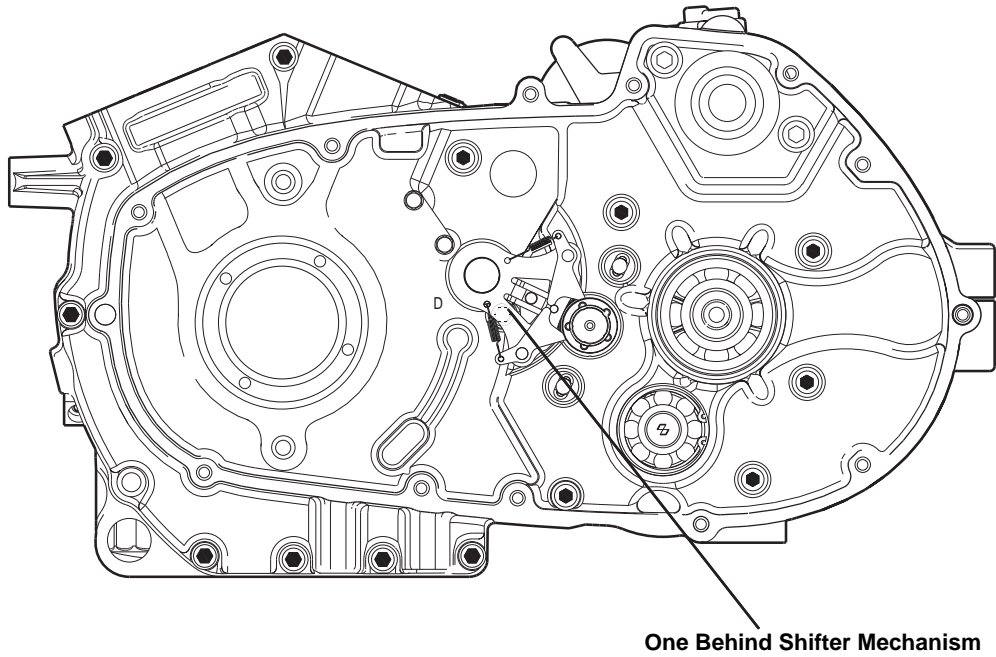

Figure 6-82. Installing Shift Fork Shafts
3. See Figure 6-82. Place the 3rd and 5th gear shifter fork on the appropriate mainshaft sliding gear and install the shifter fork shaft through the two installed shifter forks and into the left case half.
See Figure 6-82. Install shifter fork shafts in the left case half by lightly tapping on the end with a brass hammer until seated in bore.